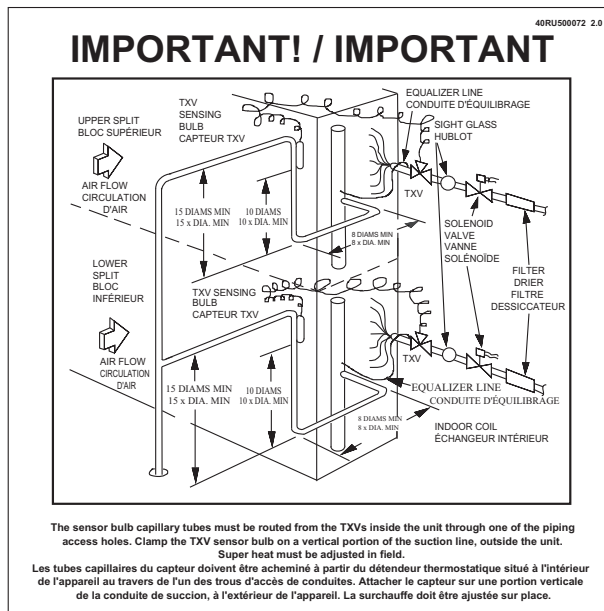

Fig. 35 — TXV Bulb Location Label
- Is TXV bulb located on suction tube per Fig. 35?